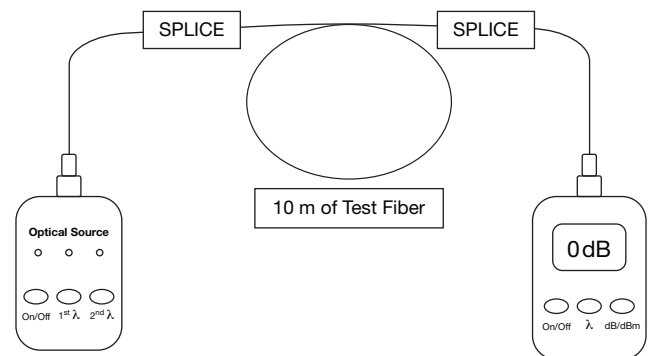

Figure 2
8. Zero the power meter. Refer to Figure 2.